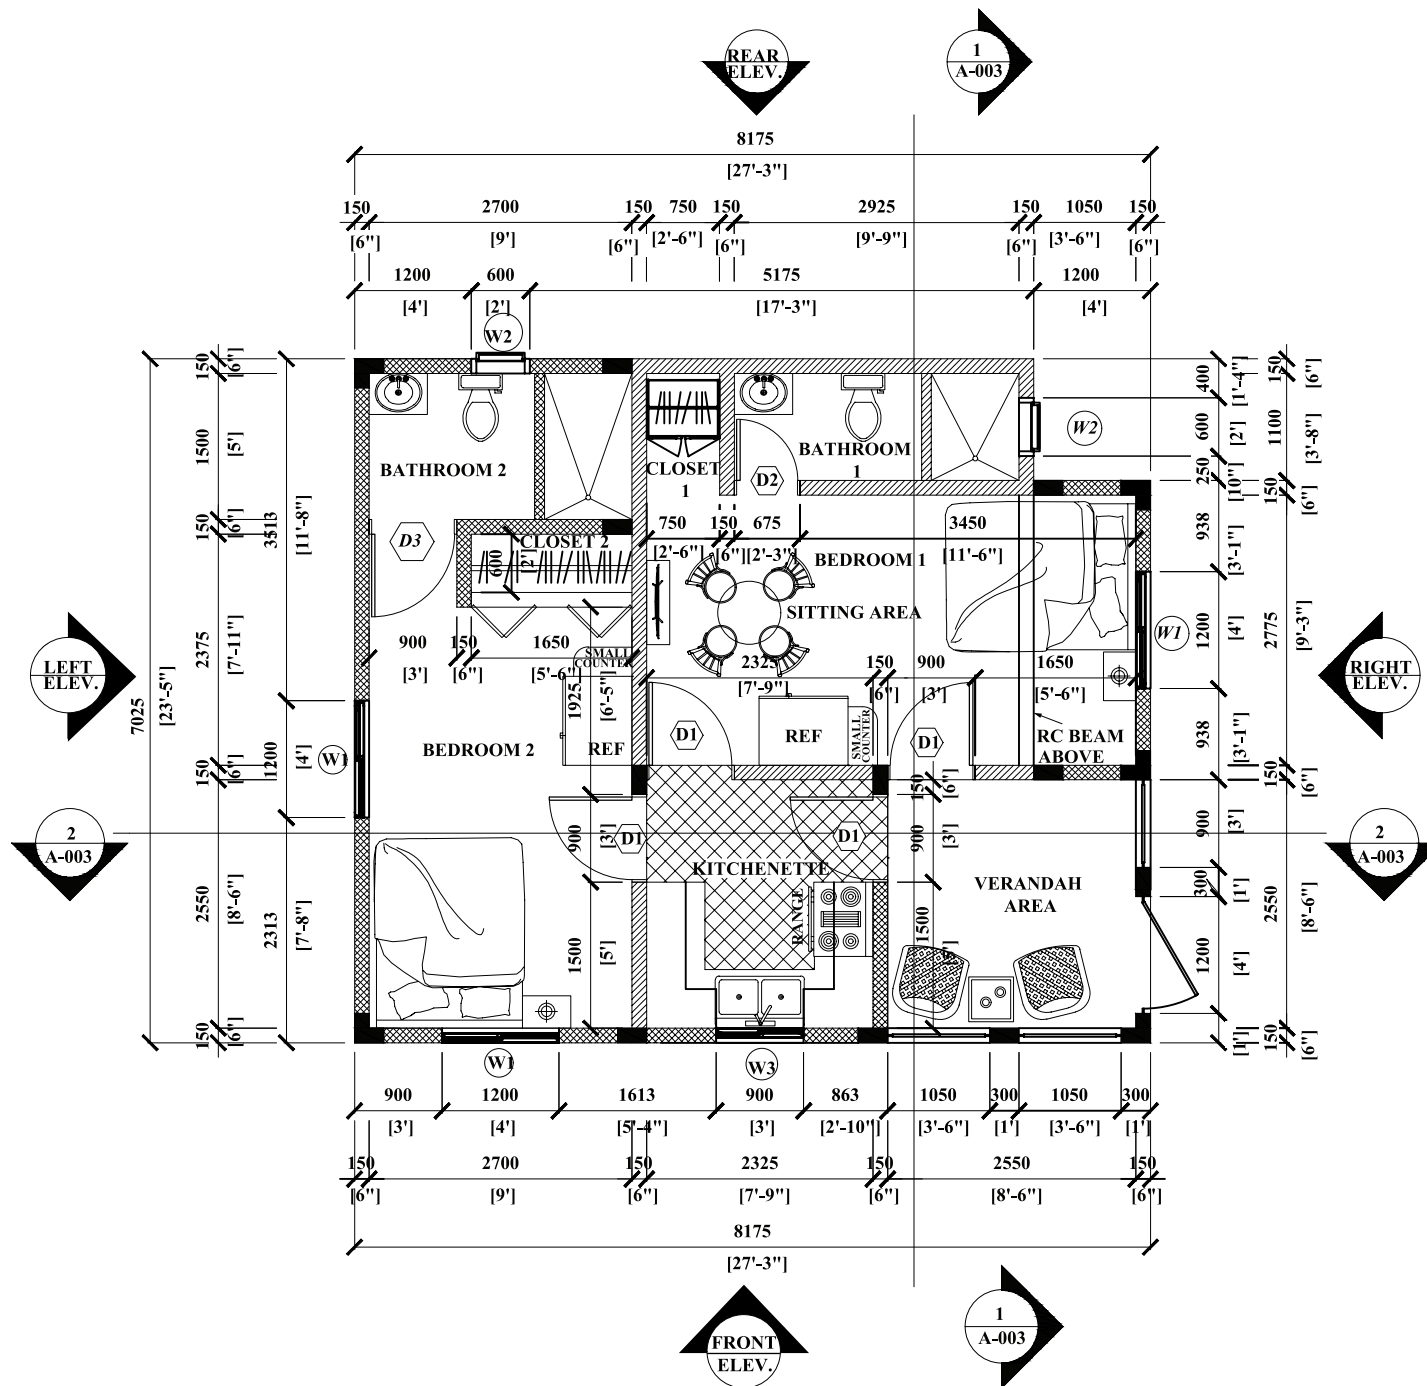

Figure 4. Proposed floor plan
- 3.** Figure 4 and Figure 5 show the proposed floor and slab reinforcement plans for the expansion of a studio unit.